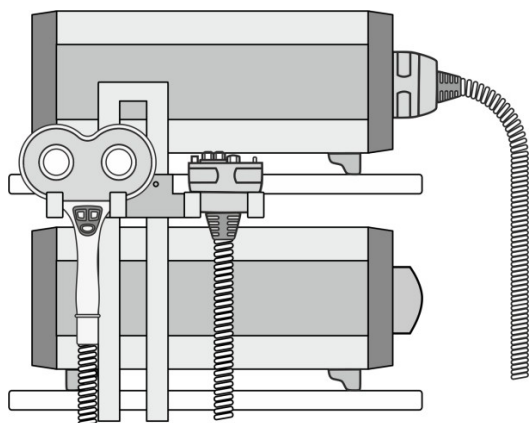

Fig. 17. The fixation of coil on the holder.
2.4.2.3 Place the unused coil in K-8 holder (Fig. 17).